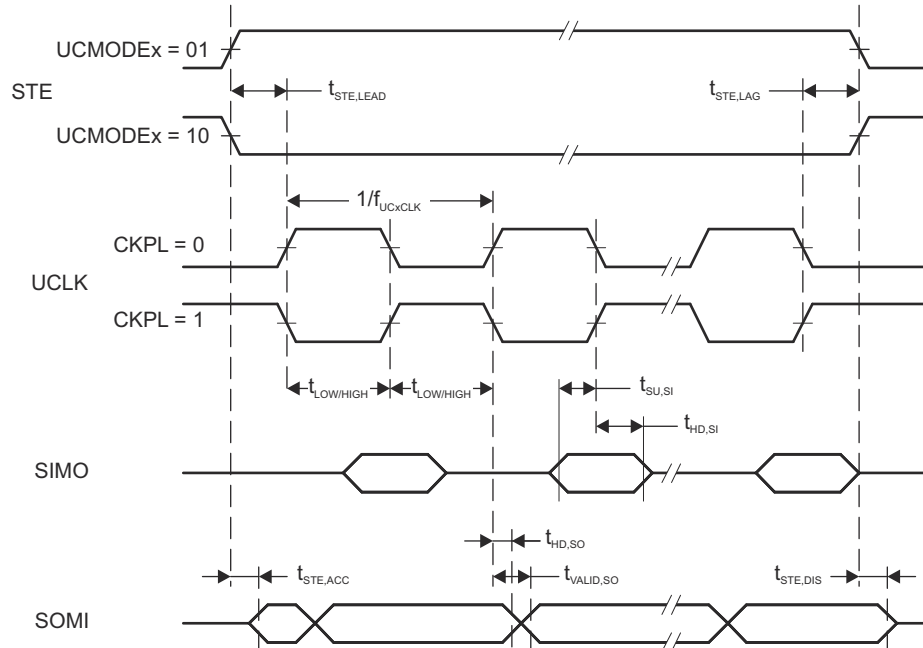
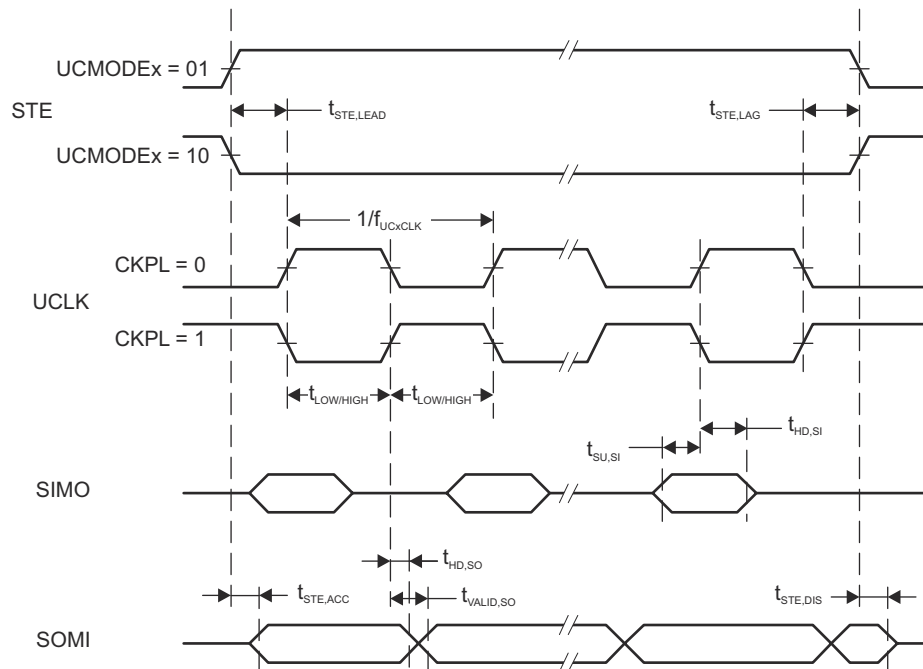

图 8-15. SPI Slave Mode, CKPH = 0
图 8-16. SPI Slave Mode, CKPH = 1
- (2) Specifies the time to drive the next valid data to the SOMI output after the output changing UCLK clock edge. See the timing diagrams in 图 8-15 and 图 8-16.
- (3) Specifies how long data on the SOMI output is valid after the output changing UCLK clock edge. See the timing diagrams in 图 8-15 and 图 8-16.